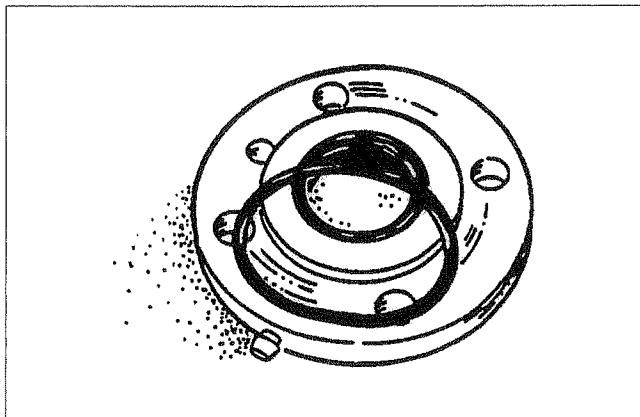

Figure 20
2. Install a new O-ring on the bearing cap cover, coat the seal with grease or oil (Figure 20).